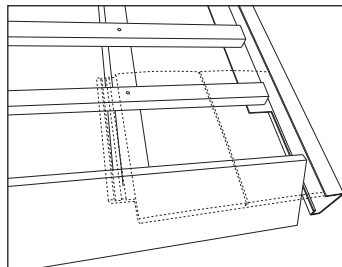

Fig. 2 – Lining up at eaves
- 2 Square cut the ends of the verge extrusion to the desired length. A connector unit is available to join lengths of extrusion. At the eaves, cut away a length of horizontal flange to accommodate the tilting fillet or support tray (Fig. 2).